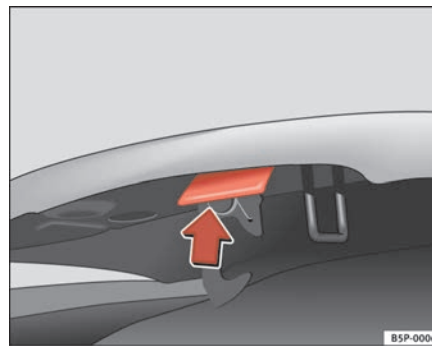

Fig. 163 Release catch under the bonnet
- Press the release catch under the bonnet upwards ⇒ **fig. 163**. This will release the arrester hook under the bonnet.